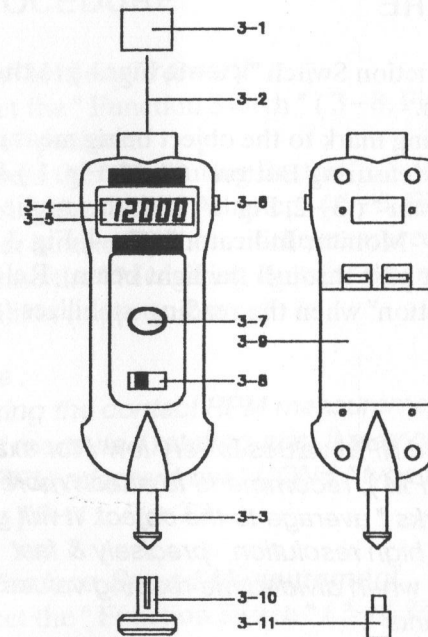

Fig. 1
- 1) Select the " Function Switch " (3-8, Fig. 1) to the " Photo RPM " position.
- 2) Apply a reflecting mark to the object being measured. Depress the " Measuring Button " (3-6, Fig. 1) & align the " Laser light beam " (3-2, Fig. 1) with the applied target. Verify that the " Monitor Indicator " (3-4, Fig. 1) lights when the target pass through the light beam. Release the " Measuring Button " when the reading stabilizes (about 2 seconds).
- 1) Select the " Function Switch " (3-8, Fig. 1) to the " Contact RPM " position.
- 2) Depress the " Measuring Button " (3-6, Fig. 1) & lightly pressing the " RPM Adapter " (3-3, Fig. 1) against the center hole on the hole of the measured rotating axis. Release the " Measuring Button " when the reading stabilizes (approx. 2 sec.).
Making the contact RPM measurement due to different kind measured rotating axis, it may changed the rubber for RPM adapter from " CONE " type to " FUNNEL " type (3-11, Fig. 1).
- 1) Select the " Function Switch " (3-8, Fig. 1) to the " m/min. " or " ft/min. " position.
- 2) Change the " RPM Adapter " instead of the " Surface Speed Test Wheel " (3-11, Fig. 1)
- 3) Depress the " Measuring Button " (3-6, Fig. 1) & simply attaching the surface speed test wheel to the detector. Release the " Measuring Button " when the reading stabilizes (approx. 2 sec.).
- a. First push the " Memory Call Button " (3-7, Fig. 1) – To display the last value(" LA " and " the last value " will be displayed alternately).
- 2) Open the Battery Cover (3-9. Fig 1), use the " - " type screwdriver or small coin to open the battery cover and remove the battery.